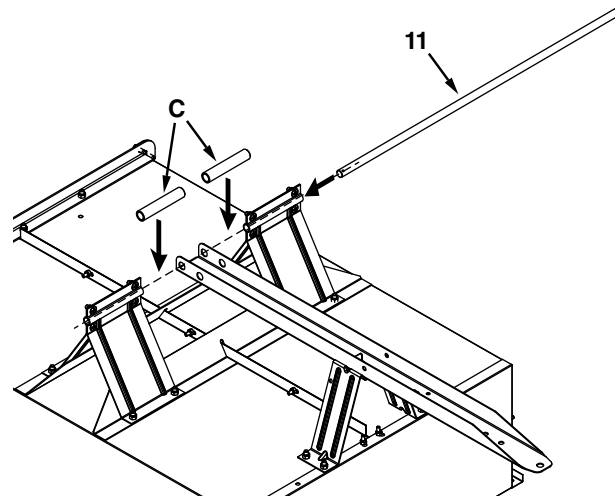

Figure 13
STEP 14 (SEE FIGURE 13): Install the axle (11) through the wheel support, a spacer (O), the rear hole in the draw bar tongue (15), a spacer (C), and the wheel support as shown in figure 13.